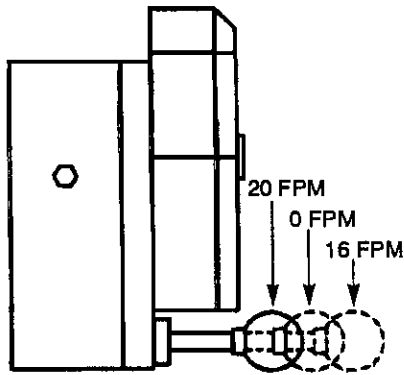

Figure 11 – Power Feed Adjustment
- To engage power feed at low speed (16 FPM), pull engagement knob out away from planer (See Figure 11).
- To engage high speed (20 FPM), push engagement knob in all the way, towards planer (See Figure 11).
- The power feed system can be disengaged by placing the engagement knob in the middle or neutral position (See Figure 11).